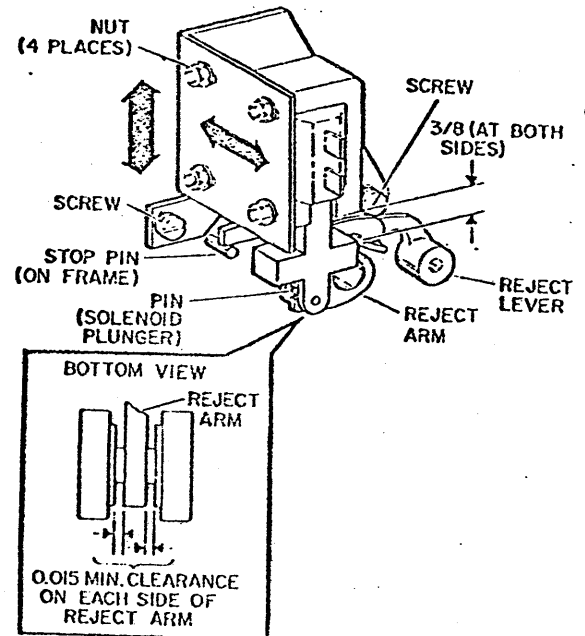

Fig. 3-106. Reject Solenoid (L4) Assembly Adjustment
1. Loosen screws (two places) and nuts (four places) as shown in Fig. 3-106.